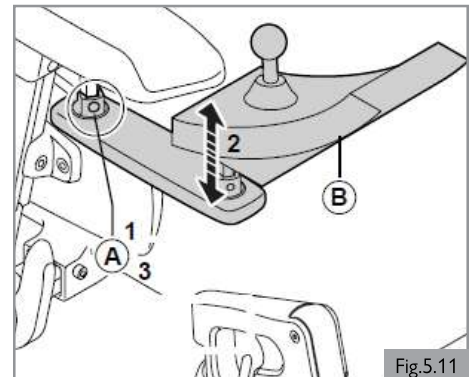

Fig.5.11
1. Loosen (A) by one turn.
2. Adjust (B) to the desired position.
3. Tighten (A). See section 9 for specified torque values.
**Height of the controller (1) (Fig. 5.11)**